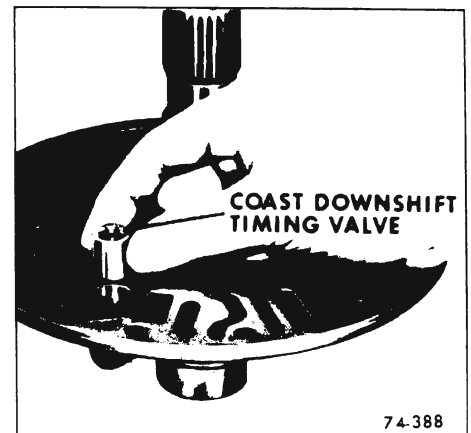

Figure 74-196
8. Install coast downshift timing valve. See Figure 74-196.